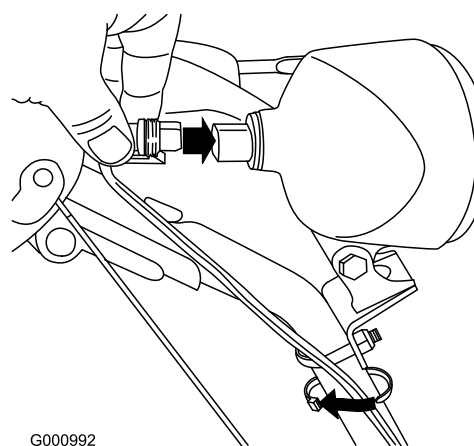

Figure 17
1. Insert the wire connector on the loose end of the wire straight into the back of the headlight until it is securely in place (Figure 17).
Note: Ensure that the plastic clip on the wire connector is on the bottom (Figure 17).
- Secure a cable tie (from the loose parts bag) around the wire and the handle about an inch (2.5 cm) below the U-bolt (Figure 17).